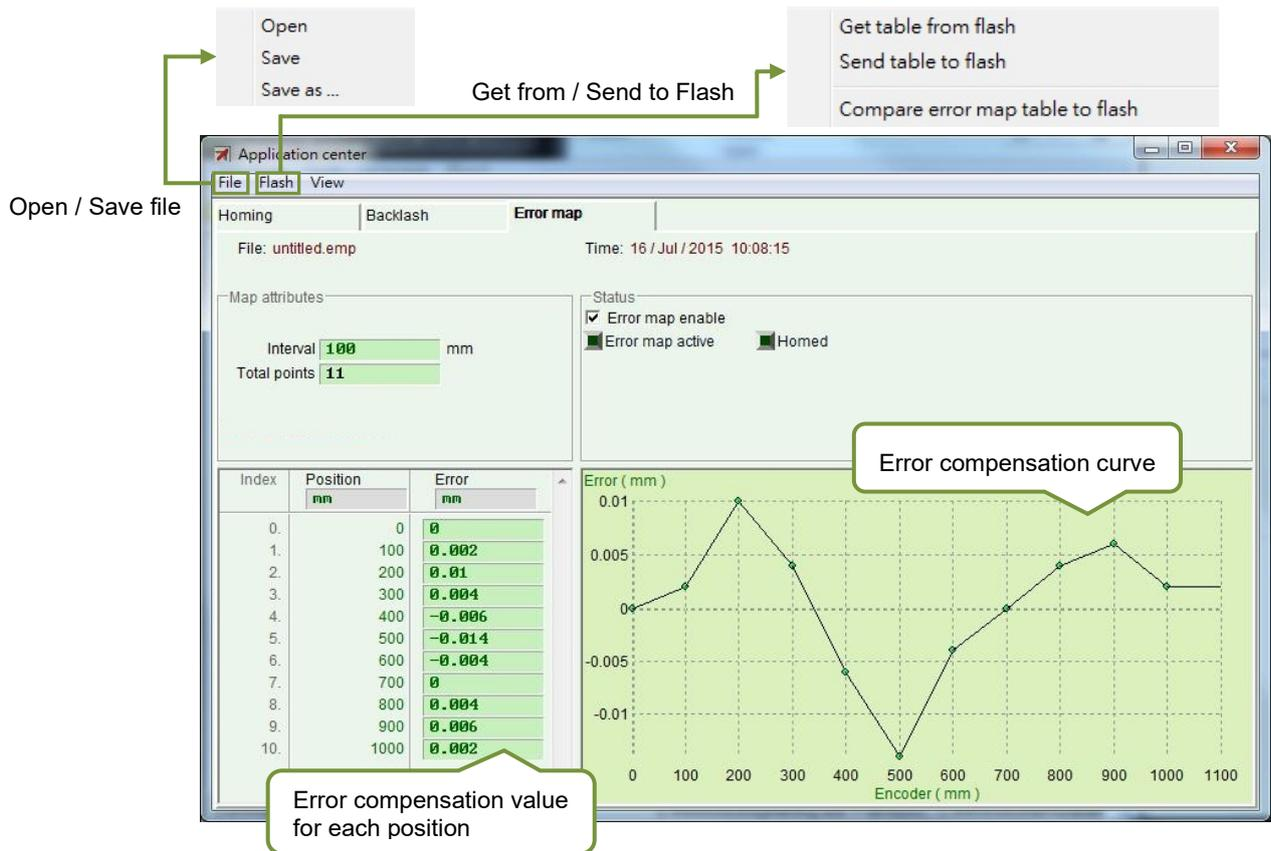

Figure 6.9.1.1 Error map window
Step 1. Go to Application center and select the “Error Map” tab to open the window of error map function, as Figure 6.9.1.1 shows.
Step 2. Set compensation interval (“Interval”) and total compensation points (“Total points”), and enter the error compensation values to the “Error” column. Click the unit column to set the preferred unit. Take Figure 6.9.1.2 as an example, the compensation range is from 0 to 1,000 mm, the compensation interval is 100 mm, and the total compensation points are 11 points. The values in the “Error” column are obtained from the error measurement of the laser interferometer. For example, when the target position is 100 mm, the laser measurement reports 100.002 mm.